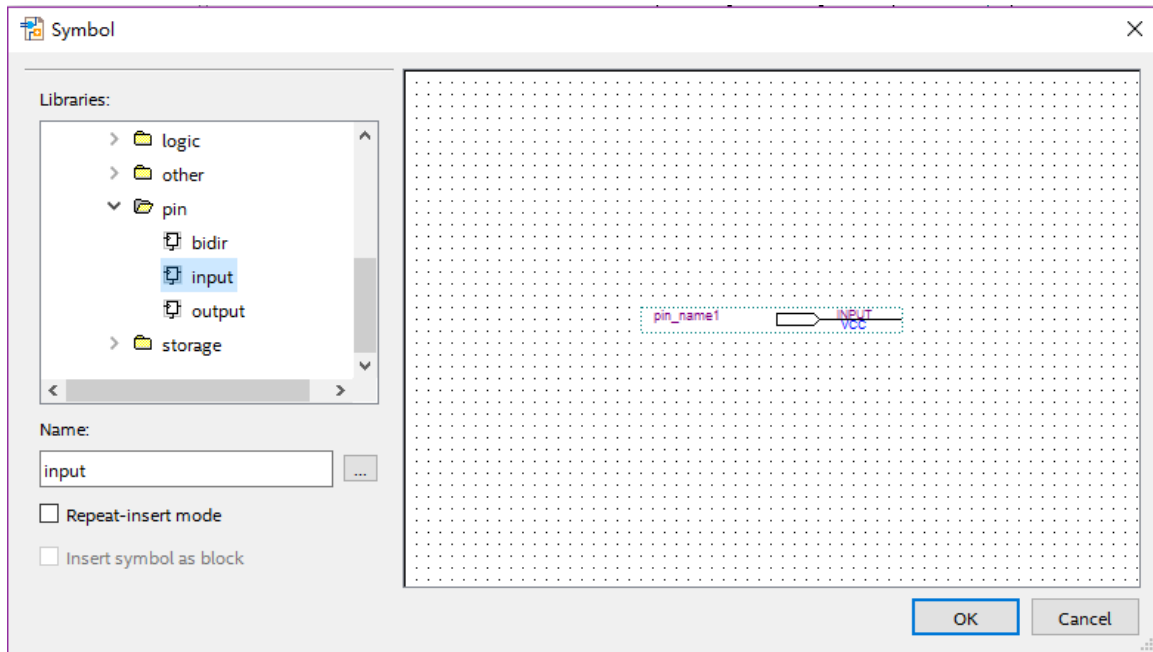

Figure 3-17 Input pin symbol
- b. Under Libraries, select quartus/libraries > primitives > pin >input. See Figure 3-17.